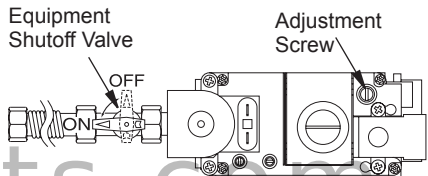

Figure 63 - Turning Equipment Shutoff Valve to the OFF Position
5. Turn equipment shutoff valve clockwise  to the OFF position (see Figure 63). Do not force.
6. Wait five (5) minutes to clear out any gas. Then smell for gas, including near the floor. If you smell gas, STOP! Follow "B" in the safety information on page 32. If you don't smell gas go to the next step.